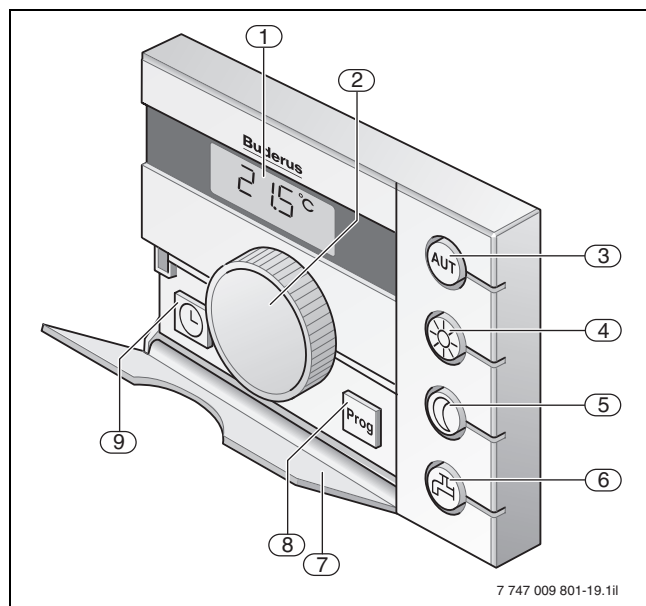

Fig. 26 Displays and controls of the RC25 programming unit
The RC25 (→ fig. 26) programming unit is connected to the Logamatic EMS and supplied with power via a 2-core BUS cable. It may be used either as a programming unit or as a remote control. A wall mounting bracket for mounting the RC25 programming unit inside the living area is part of the standard delivery.
In both applications, the LCD shows the captured room temperature (→ fig. 26, pos. 1). The LCD also shows the time and the day of the week.
Selector keys (→ fig. 26, pos. 3 to pos. 5) enable the selection of the heating modes "Automatic, Constant heating" and "Constant setback". The integral LED signals the current operating mode.